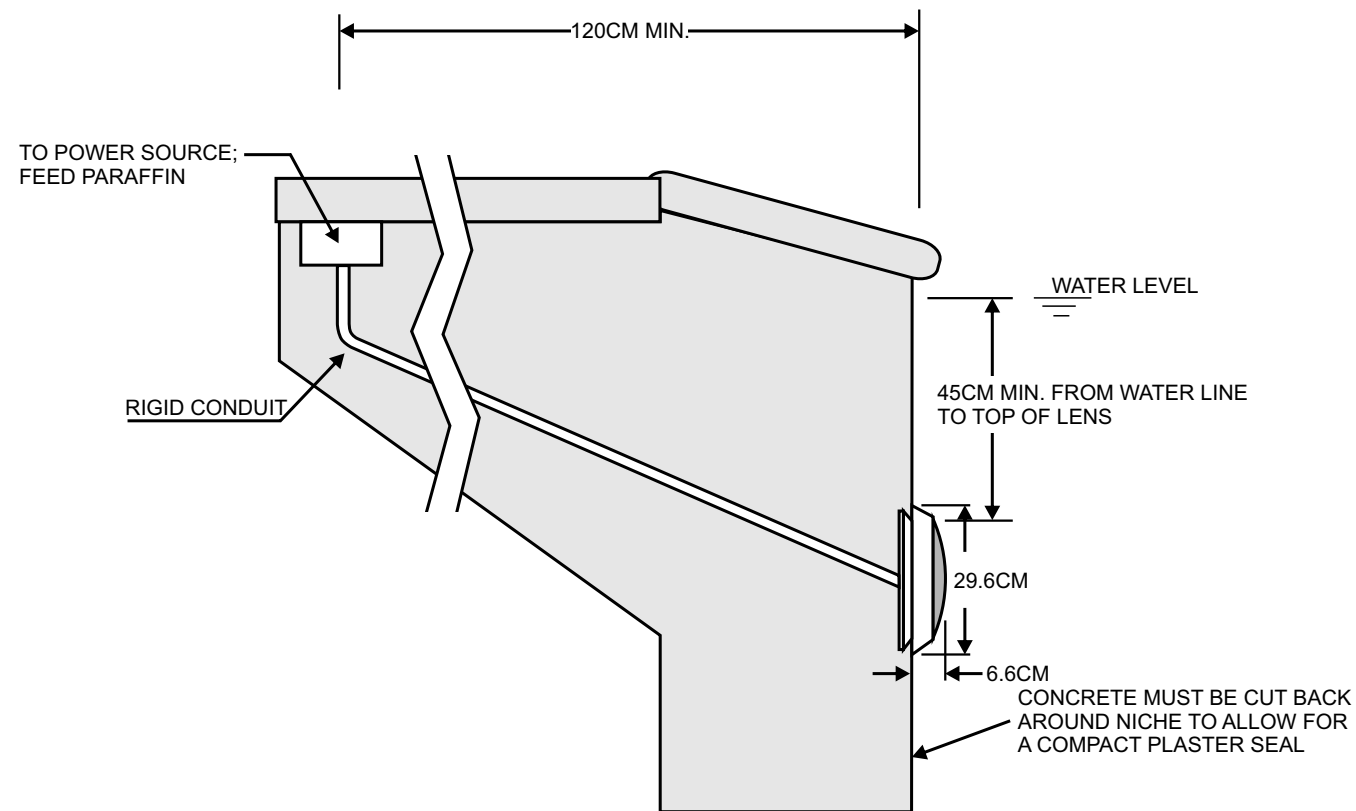

Figure 1.
A. Preparatory steps which must be completed by the electrician before light is installed, see Figure 1.
- a. The junction box, or the low voltage transformer for 12 volt Underwater Light model is to be located at least 120CM from the edge of the pool, see Figure 1.
- c. The mounting bracket must be properly installed so that the top edge of the Underwater Light lens is at least 45CM below the surface of the water in the pool, see Figure 1.
1. Locate position on a vertical wall where light is to be installed. The top of the light lens must be 45CM below normal water level, see Figure 1.